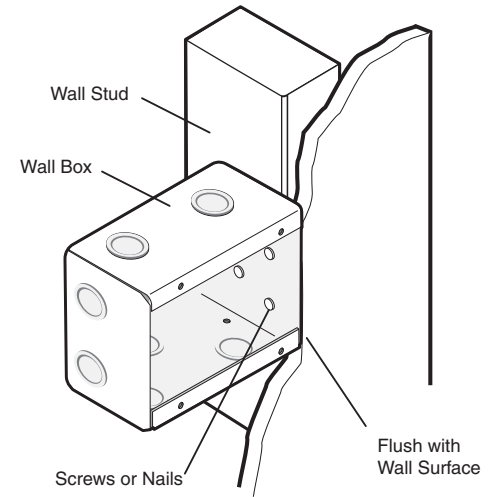

Figure 2-4 — Attaching a wall box to a wall stud
- 7b. If you are using a wall box, insert the wall box into the opening, and attach it to the wall stud/furniture with nails or screws, leaving the front edge flush with the outer wall or furniture surface (figure 2-4).